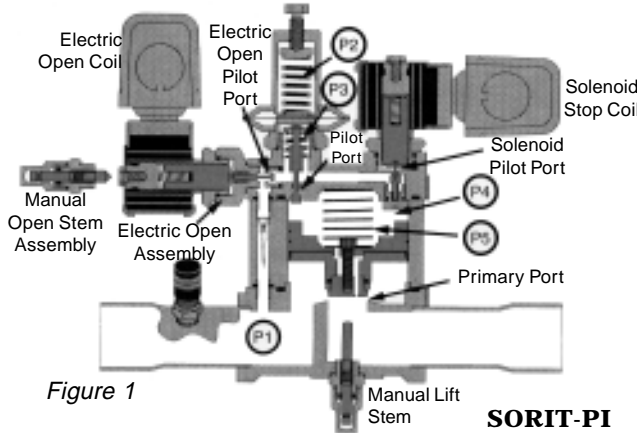

Figure 1
**PILOT PORT** - The (S)ORIT-PI pilot valve indirectly controls the modulation of the main piston. **Figure 1** shows the three pressures that control the modulation of the pilot valve: the inlet or evaporator pressure (P1), the adjustment spring pressure (P2) and the bottom spring pressure (P3). Inlet pressure (P1) enters the pilot valve through a passageway in the valve body. It also enters the chamber underneath the diaphragm of the pilot valve through two passageways on either side of the pushrod. The adjust-
**PRIMARY PORT** - The three pressures that control the modulation of the main piston are the inlet pressure (P1) acting underneath the main piston, the piston spring (P5), and the pressure on the top of the piston (P4). See **Figure 1**. The inlet pressure is opposed by the piston spring pressure plus the pressure on top of the main piston acting in the closing direction. The pilot valve regulates the pressure on top of the main piston during normal operation.
**Normal Operation — Valve modulating (Figure 1)** - Evaporator Pressure Regulating Valves respond to variations in inlet pressure (evaporator pressure). The basic designation for the Sporlan (S)ORIT-PI describes the operation: **Open on Rise of Inlet Pressure or ORI**. The pilot valve adjustment spring pressure (P2) should be set to control the minimum evaporator pressure. When the evaporator pressure rises above the valve setting, the inlet pressure (P1) combined with the bottom spring pressure (P3), closes the pilot port which prevents the inlet pressure from entering the chamber above the piston. The pressure above the piston (P4) then drops by bleeding through the orifice in the piston nose piece to outlet pressure. Therefore, pressure on top of the main